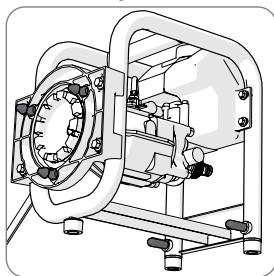

Fig. 11
- Keep the 3 locating pins and 2 stabilising pins clean and occasionally spray coat with a silicone oil based spray. (**Fig. 11**)